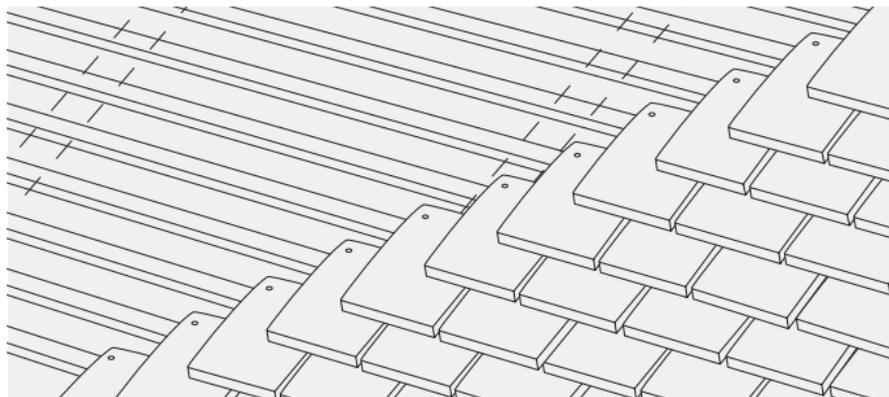

Fig. 10 – Completion of tiling
- 2 Work from right to left (Fig. 10). Depending on fixing specifications, you may leave out third and fourth tiles from left-hand verge and make use of tile battens as a ladder enabling upper part of roof to be reached for fixing ridges.